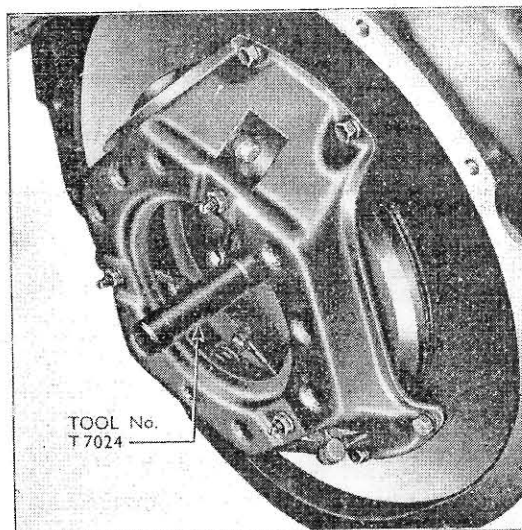

Fig. 32.
1. Lightly pack the recess behind the flywheel spigot bearing with high melting point grease and if a single clutch is to be fitted, place the clutch disc on the flywheel (longest spline boss to the outside) using locator (Tool No. T.7024) (see Fig. 32). Fit the pressure plate assembly over the clutch disc and retain this in position with six screws and spring washers. Tighten the screws evenly to a torque of 12 to 15 lbs. ft. (1.658 to 2.073 kg.m.) and remove the clutch disc locating tool.